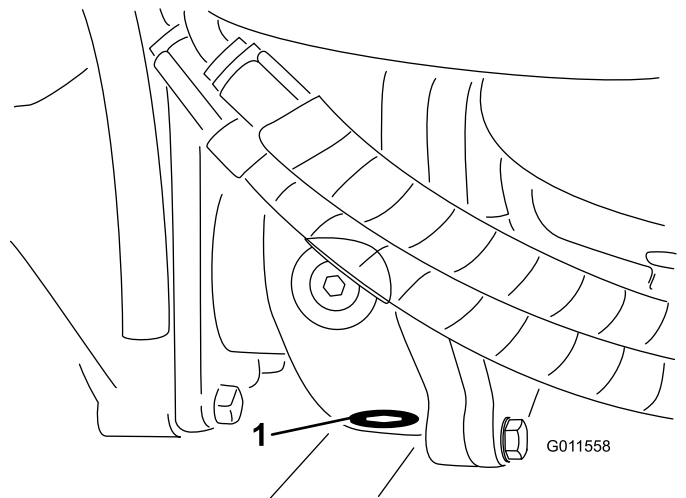

Figure 66
- 5. Clean the area around the drain plug on the bottom of the gear box (Figure 66).